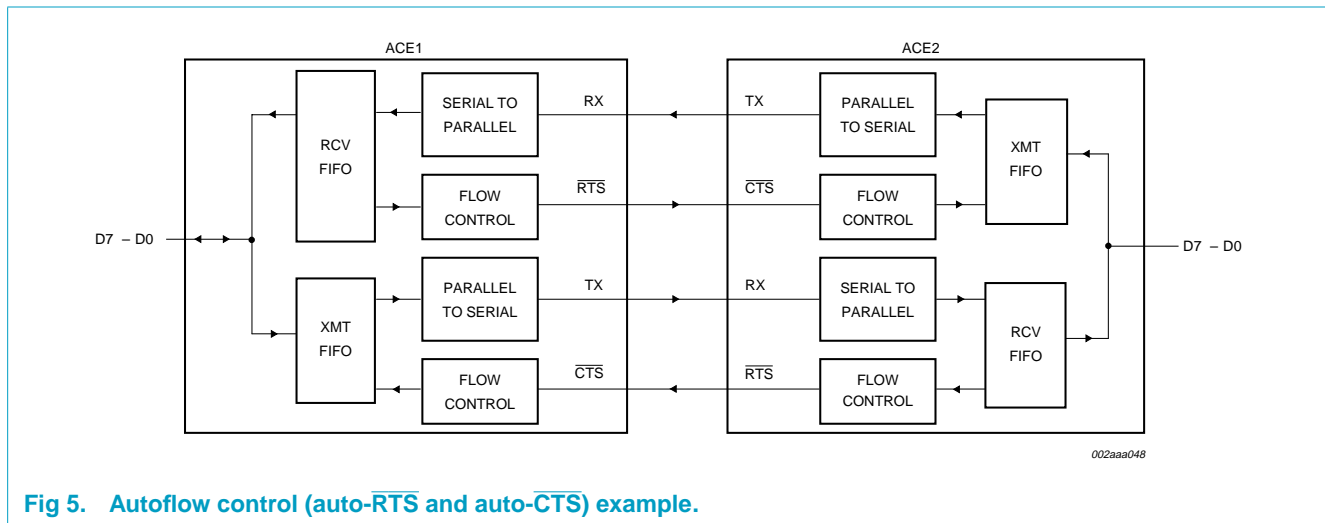

Fig 5. Autoflow control (auto- $\overline{\text{RTS}}$  and auto- $\overline{\text{CTS}}$ ) example.
### 6.3 Autoflow control (see Figure 5)
#### 6.3.1 Auto- $\overline{\text{RTS}}$ (see Figure 5)
6.3.2 Auto-CTS (see Figure 5)